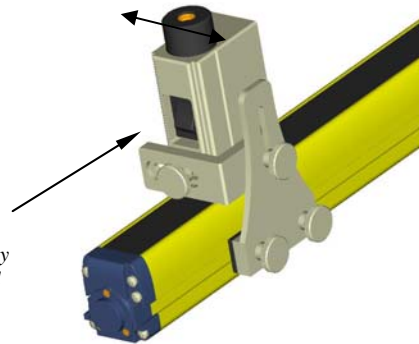

Fig.7
- 4) Repeat this procedure inserting the laser pointer in the lower part of the receiving unit. After this operation, fix the position of the light curtain remove the laser pointer from controlled area and switch on the safety device and verify the correct alignment. Finally, centre the laser pointer transversal position keeping it close to the front panel, fix defiantly (Fig.7).